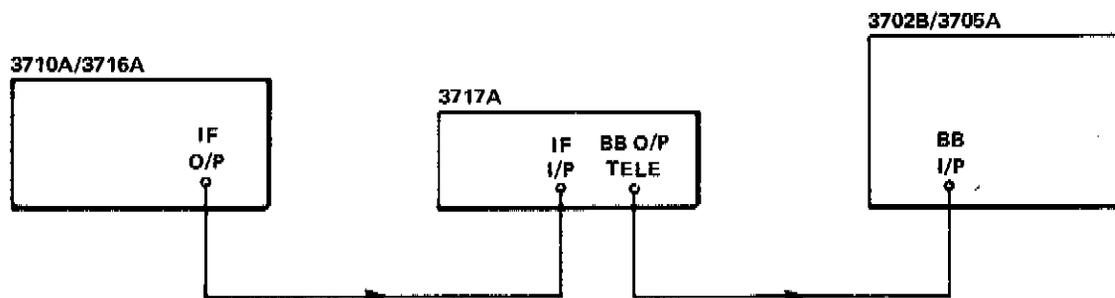

Figure 5-24 Optimization Setup 2
6. Connect the equipment as shown in Figure 5-24. Set the controls as follows: